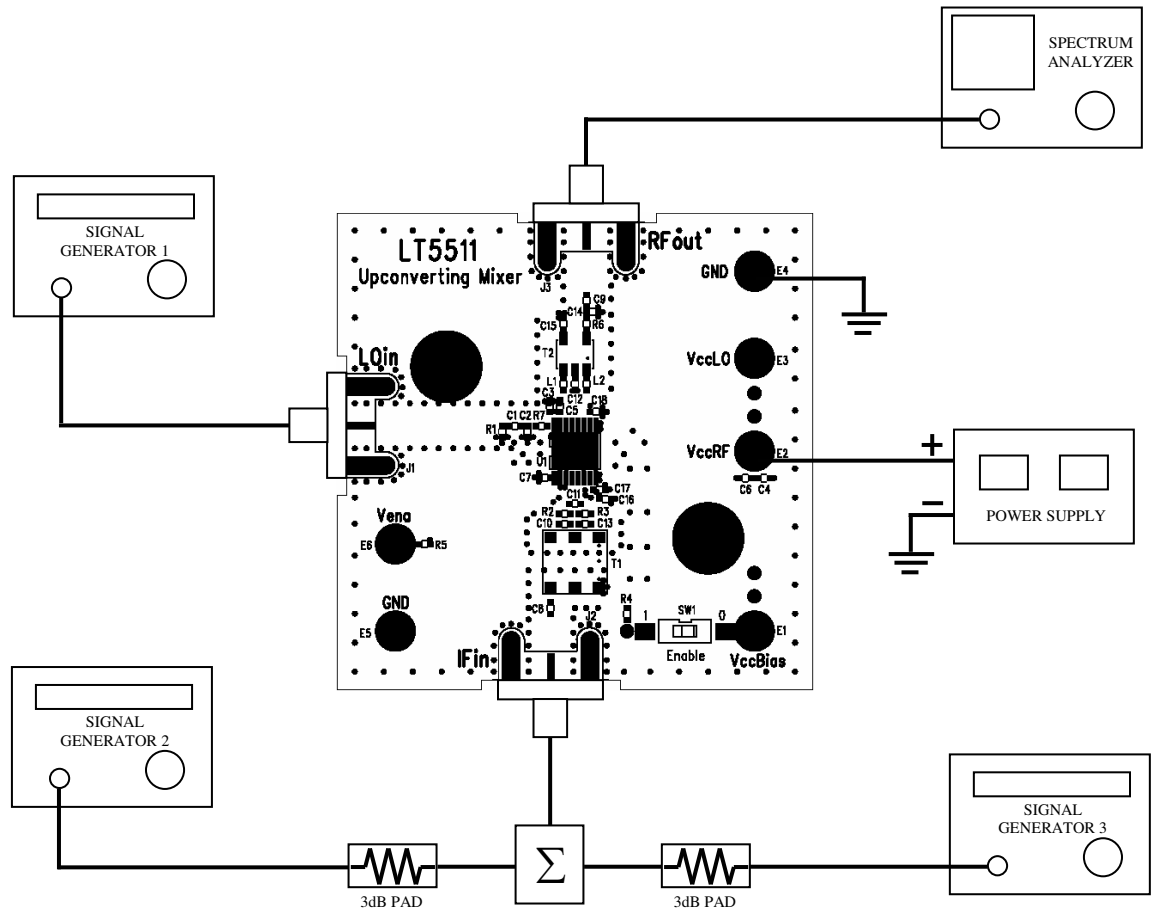

Figure 3. Test Set-Up for Mixer Two-Tone Measurements
1. Connect all test equipment as shown in Figure 3.